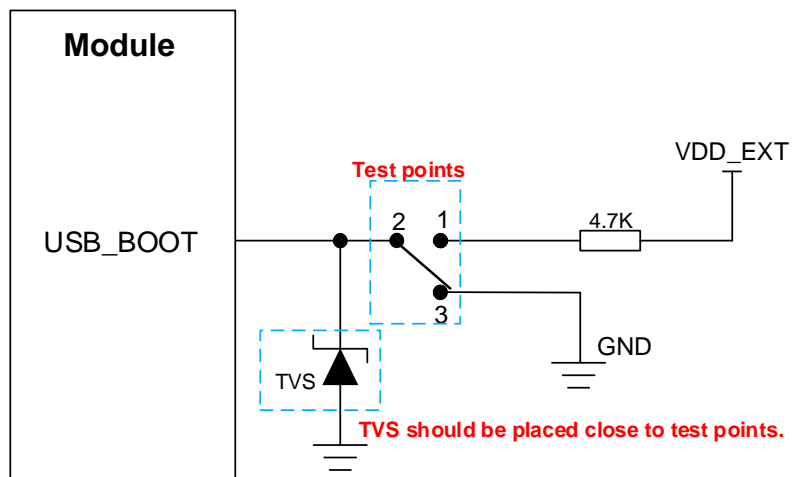

Figure 20: Reference Design of USB_BOOT
3. If you need to manually force the module to enter emergency download mode, directly connect the test points shown in **Figure 20**.